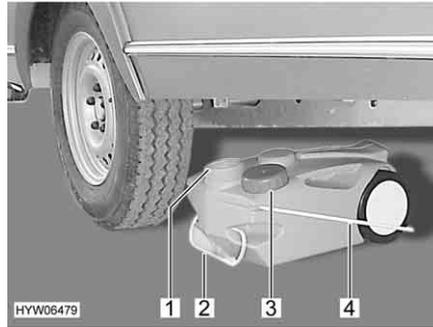

Fig. 184 Waste water tank, mobile
- Use the cap (Fig. 184,3) to close the opening of the waste water tank (Fig. 184,1).
- Use the handle (Fig. 184,2) to pull out the waste water tank.
- Fold the carrying handle (Fig. 184,4) up and upright the waste water tank.